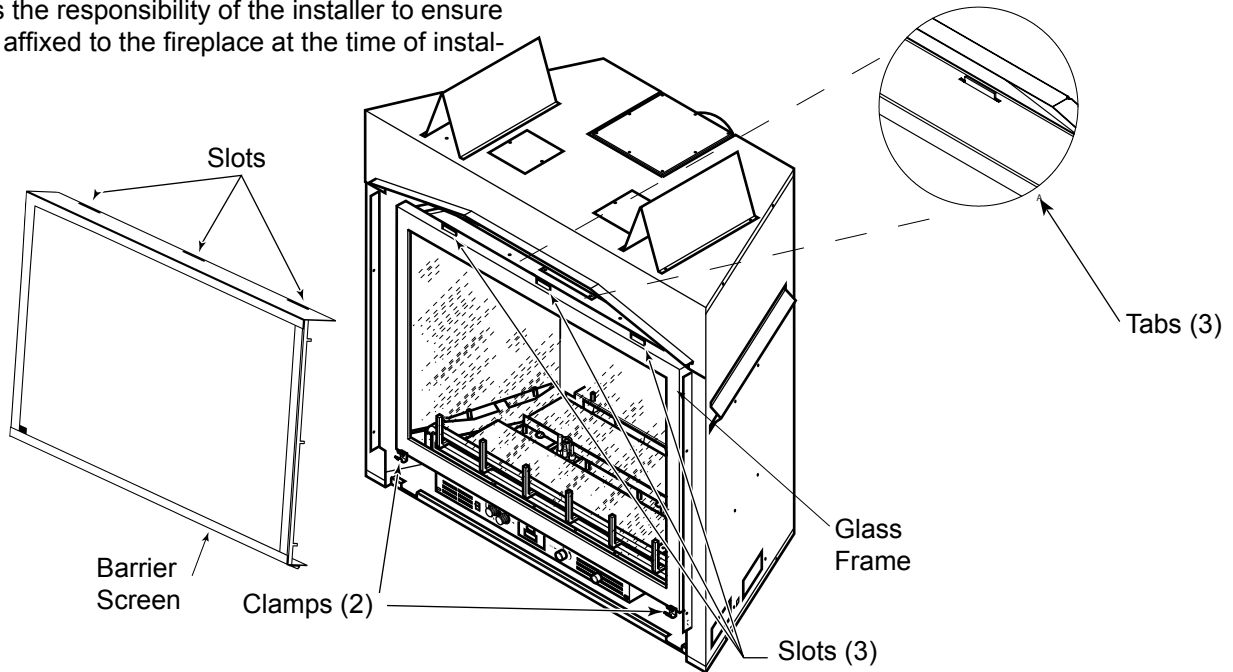

Figure 48
2. Hang barrier screen over the three tabs located on the top of the fireplace using the corresponding slots in the barrier screen frame. *Figure 48*
3. Push the bottom of the barrier screen into the clamps at the bottom of the fireplace and close the latches. *Figure 48*